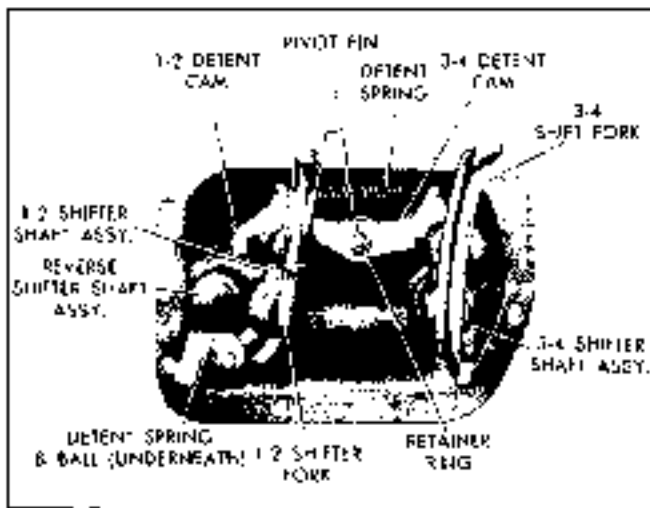

Fig. 7C-3 Side Cover Assy.
5. Pull main drive gear out of case as far as possible and remove front bearing (Fig. 7C-6).